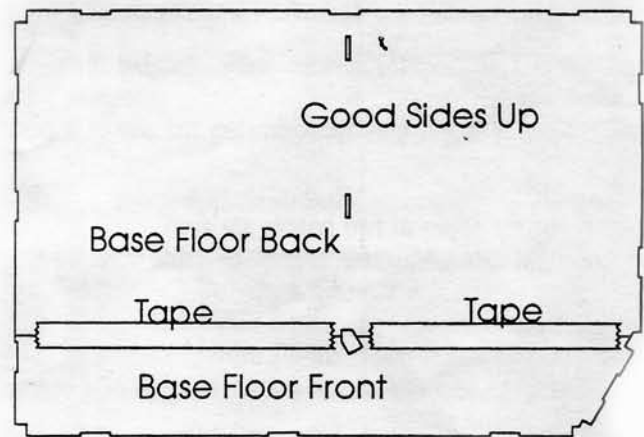

Figure 1
2. Lay Base Floor Front and Back on a flat surface with the **good sides up**. Tape both parts together along the junction line. See Figure 1.